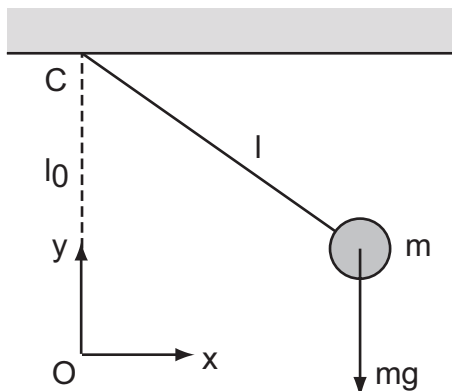

Figure 1: Pendulum with variable rod
1. A pendulum of rod length l and mass m is suspended from point C, as illustrated in Figure 1. The rod length varies according to time and the length at time t is given by $l(t) = l_0 + A \sin \omega t$, where l_0 is a positive constant, ω denotes a constant angular frequency, and A denotes a constant amplitude that satisfies $-l_0 < A < l_0$. Let x and y be coordinates of the mass. Derive the Lagrange equation of motion of the system and solve the derived equations numerically.